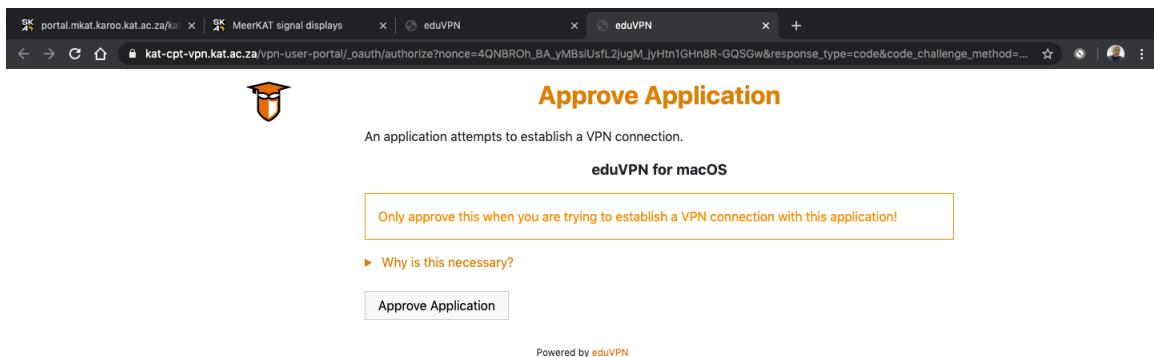

Figure B.15: MacOS EduVPN aprrove application dialogue
- Don't forget to delete the old configuration every time that you download a new one on the EduVPN site as shown in **Figure B.15**
The window as shown in **Figure B.15** will pop-up and press "Approve application"